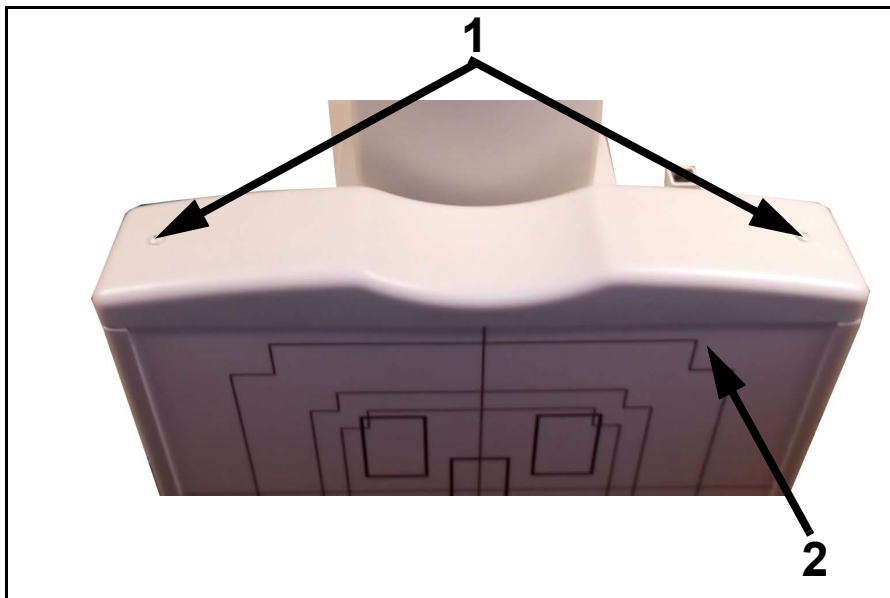

Figure 6-15. Top Cover Screws
- 2 Unscrew the two top cover screws (1 in Figure 6-15) and remove the top cover (2).